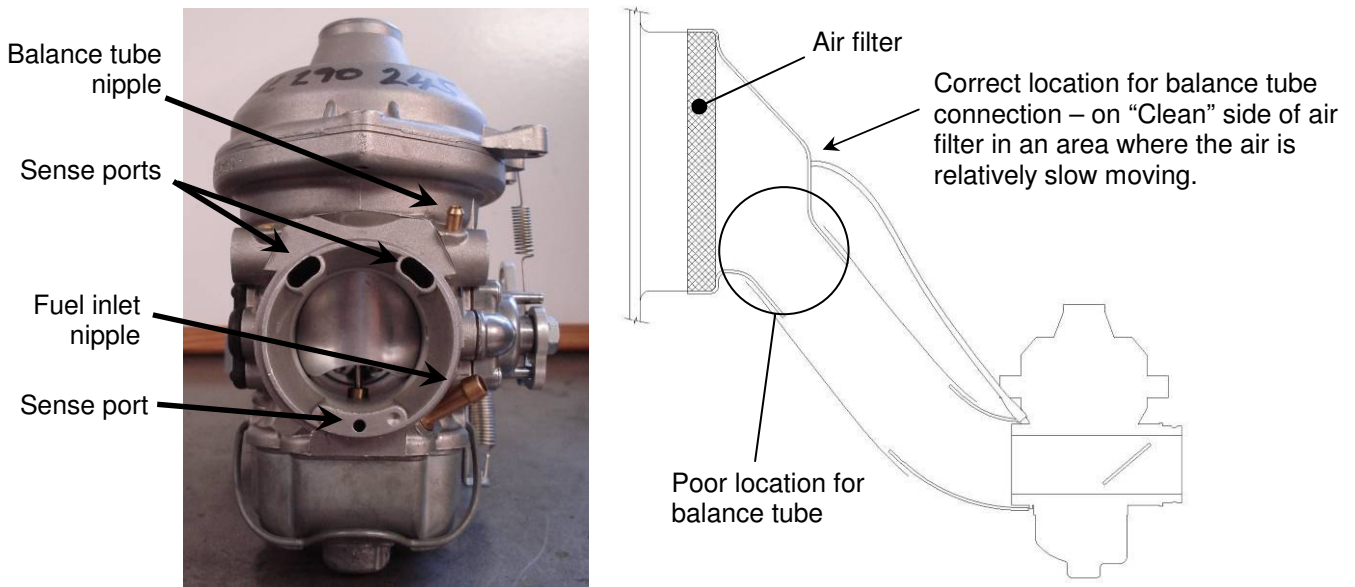

Figure 30. Carburettor Intake & Balance Tube Detail
- The Bing carburettor has a Balance tube (also known as a "sense tube") which connects the carburettor to the air box. The tube runs from a nipple on the carburettor to the airspace in the air box on the "clean" side of the air filter. This tube is part of a system of ports which "tells" the carburettor how hard the engine is working and controls how the carburettor varies the fuel / air mixture delivered to the engine. Tuning issues and poor running will result if this tube is blocked or connected to the wrong spot. Figure 30 shows the tube installation. Note that the balance tube must not be connected to the air box in a location where the air is moving fast – rapid flows produces pressure changes and boundary layer effects which mean the balance tube gives the carburettor "bad" information, which can cause poor mixture control and running issues.